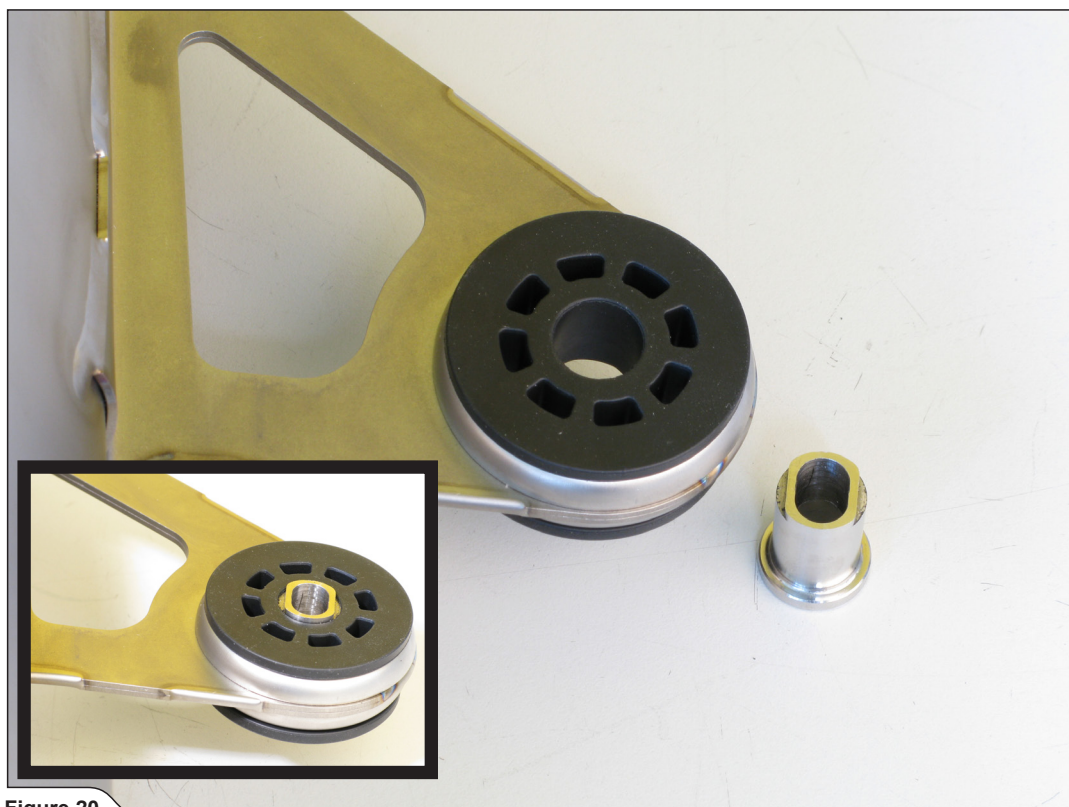

Figure 20
15. Insert the sleeve from Akrapovič installation kit, into the rubber muffler's bracket, as shown **(Figure 20)**.